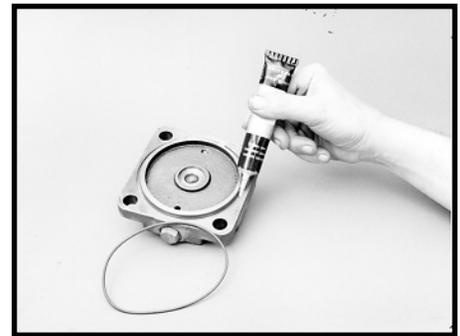

Figure 119
- 16. Apply clean grease to the end cover seal ring groove on the end cover (37). Install the new end cover seal ring (9) into the end cover seal ring groove. SEE FIGURE 119.